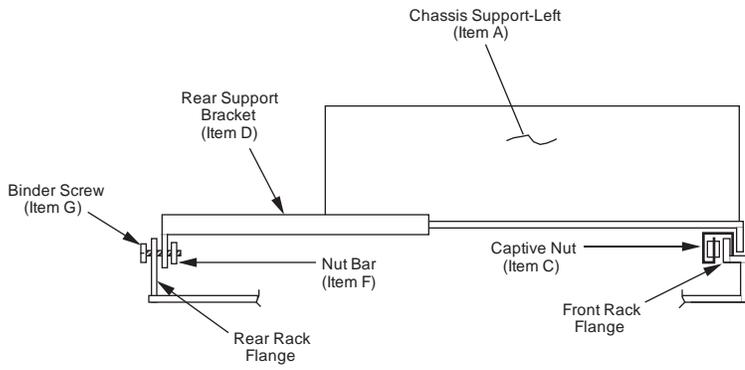

Figure 7-3
- Place a rear support bracket (item D) on the left chassis support (item A) and temporarily install the two pieces in the rack by sliding them apart until their flanged ends fit as shown in Figure 7-3. Note which holes will be used to attach the two pieces together.